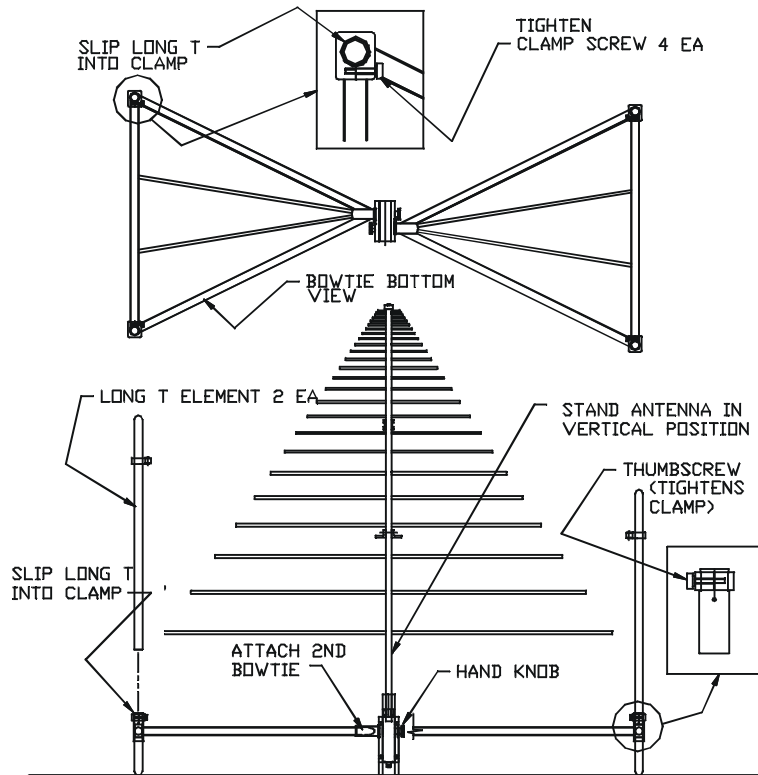

FIGURE 2 - Assembly Steps 2 through 4
Step 2. Once you have attached both bow-tie elements; with both hands, rotate the antenna and bow-tie into a vertical position resting on a flat surface (see Figure 2). The antenna can now rest by itself on the feet of the balun box, and the bottom edge of the bow-tie elements.
Step 3. Attach the other bow-tie element to the antenna balun box (see Figure 2). The antenna should rest on the balun end and stand vertically to attach the 2nd bow-tie with the opposite hand knob.
Step 4. The long T leg elements are installed and clamped to the bow-ties (Figure 2) with the antenna standing vertical.